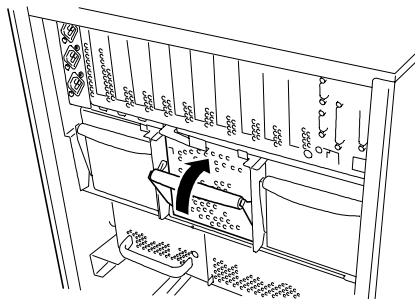

Figure 4-63. Securing the New Power supply
7. Secure the power supply by lifting its front lever and then pushing it firmly into the bay until you hear it click, see Figure 4-63.